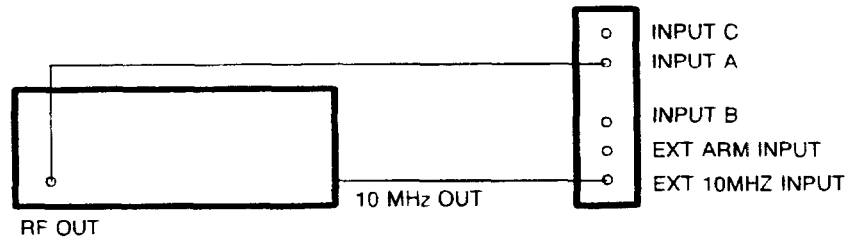

Figure 5-6. Time Interval A-B Test Configuration
2. Connect the VX4223 to the signal generator as shown in Figure 5-6. Set the signal generator to 10 MHz, 0 dBm.